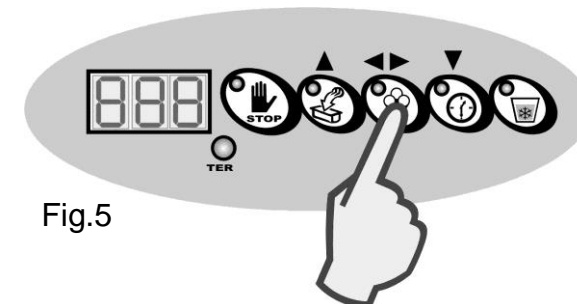

Fig.5
- Subsequently, press the Confirm key to start a new slush production cycle (fig. 5).